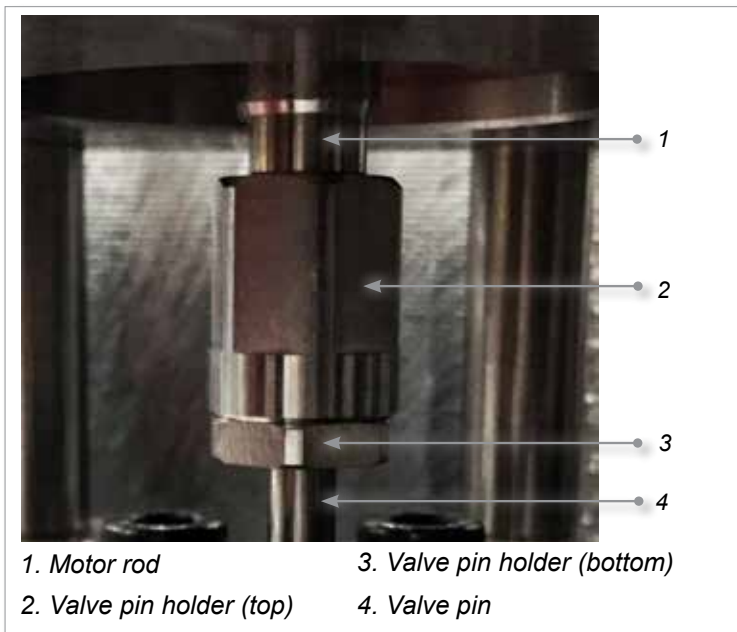

Figure 6-21 Valve pin holder components
2. Install this assembly onto the top piece of the valve pin holder. Torque to 8 to 10 Nm [6 to 7 ft-lbs]. See "Figure 6-21 Valve pin holder components" on page 6-18.
8. Install the valve pin holder assembly onto the motor. Torque to 8 to 10 Nm [6 to 7 ft-lbs]. See Figure 6-21.